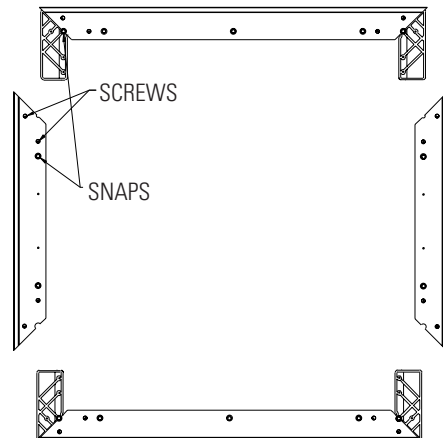

FIGURE 1 (REAR VIEW)
2. Slide the frame pieces together at corners (Note: Frame assembly holes may not appear to fit properly at the corners until all fasteners have been attached. Once fasteners are attached, the frame corners will be drawn in for a proper fit.) Secure frame pieces with #10 screws provided. Do not tighten screws until all are started, then tighten. See Figure 1.